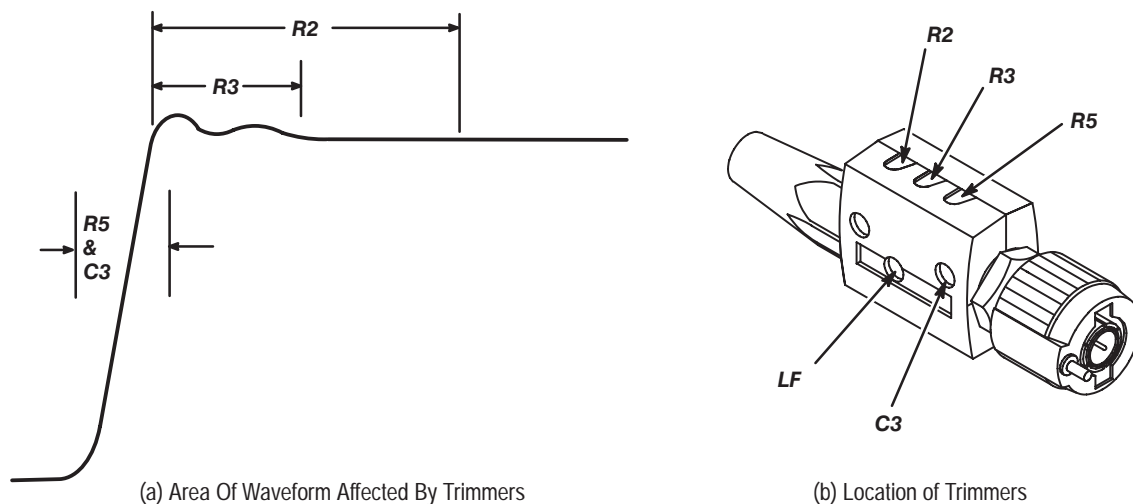

Figure 4: Adjusting High-Frequency Compensation
2. Connect the probe to the signal source and display a 1 MHz test signal on your oscilloscope. Adjust your oscilloscope to 5 ns/division. The display should be similar to that shown in Figure 4(a).